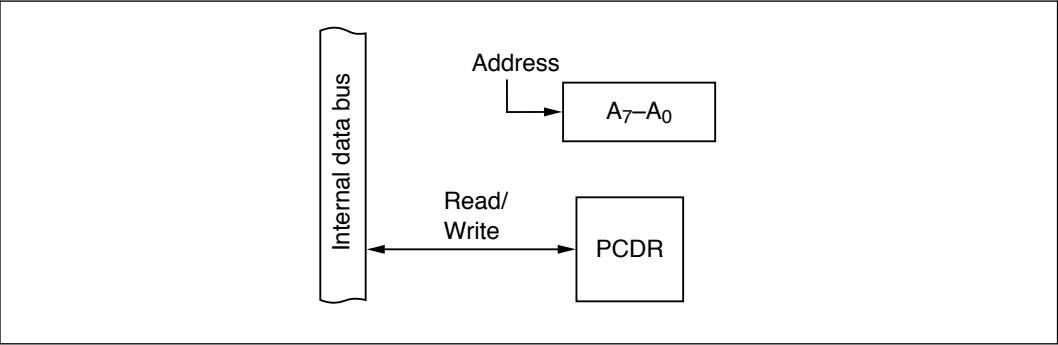

Figure 9-85 Address Bus (Modes 1 to 6)
(4) Address Bus (All Pins: Modes 1 to 6): Figure 9-85 shows a block diagram illustrating the address-bus function. Table 9-62 indicates register read/write data. When port C is used as an address bus, values written in the port C data register (PCDR) have no effect on the bus lines. When read, PCDR returns the value written in PCDR.